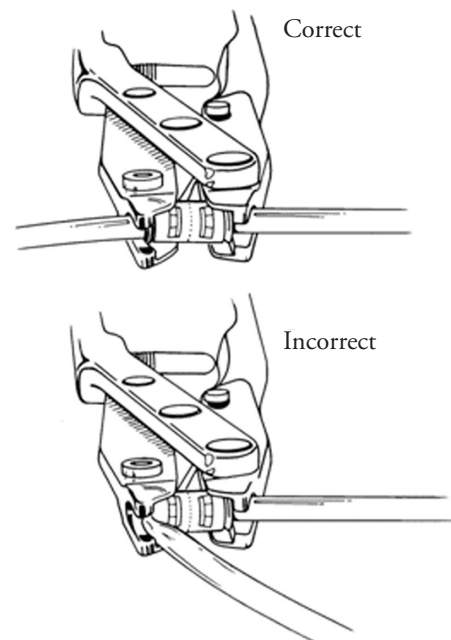

Figure 4-34. Closing Assembly Tool
7. Squeeze tool handles until closure stop touches opposite handle. (Figure 4-34)